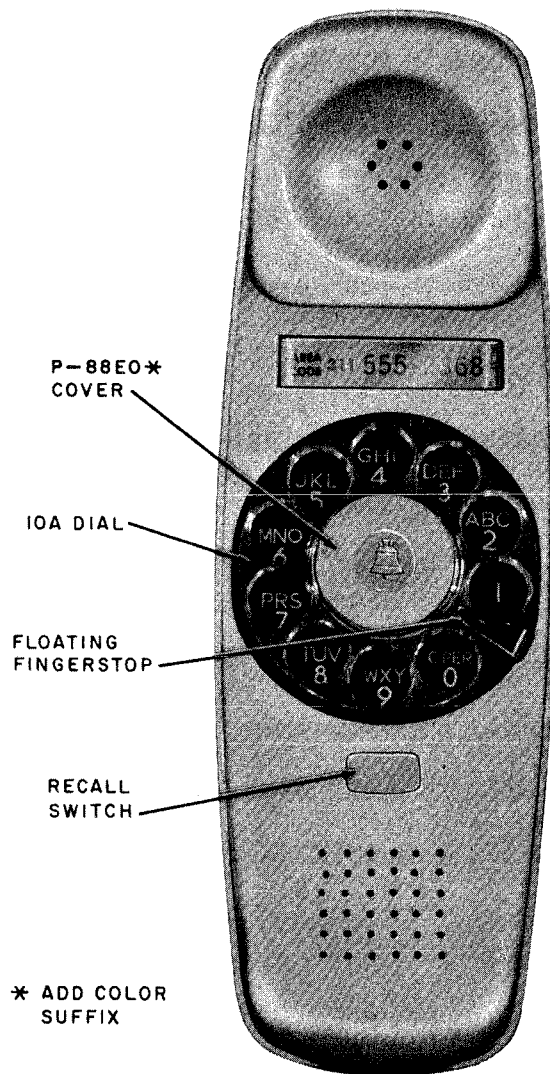
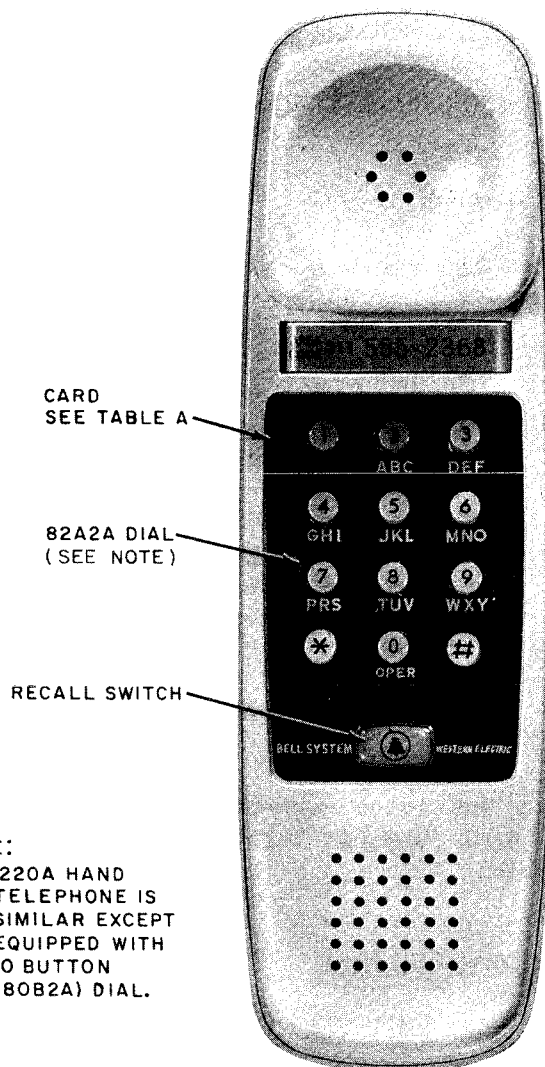

Fig. 1—220A Hand Telephone Set
Fig. 2—2220B Hand Telephone Set
2.01 The 220A (Fig. 1), 1220A, and 2220B (Fig. 2) hand telephone sets are components of the dial-in-handset TRIMLINE® telephone sets. The hand telephone set is a complete telephone set except for the handset cord and the ringer and line switch which are housed in a telephone base.
(a) **Recall Switch (Fig. 1 and 2):** Point out recall switch and explain advantages of switch. Example: If a person receives busy tone at conclusion of dialing a number, he may depress the recall switch for a few seconds; then release. Dial tone will again be heard. This is done in place of depressing line switch plunger on the telephone base.